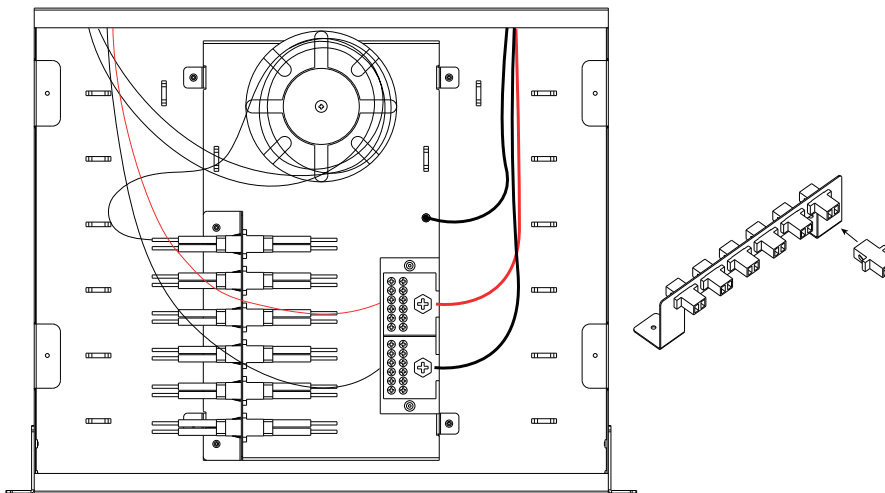

Figure 5
- e. Loop excess fiber around the built-in spool. (Figure 5)